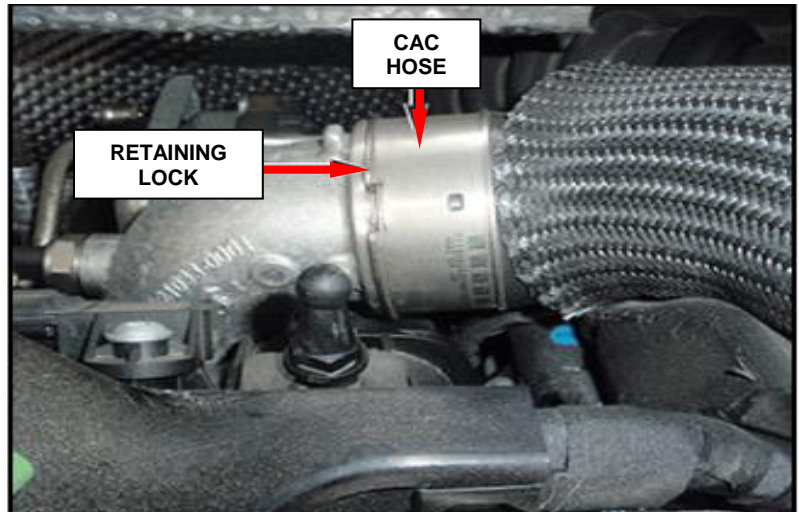

Figure 13 – Turbocharger Elbow
11. Release the retaining lock and disconnect the CAC hose from the turbocharger elbow and remove the hose (Figure 13).